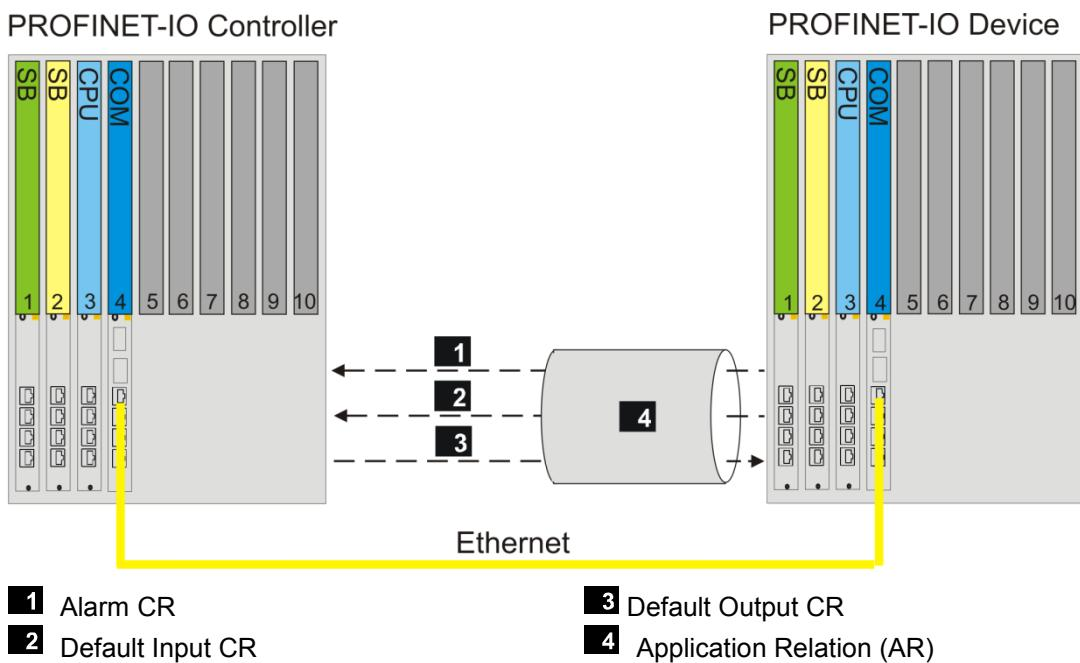

Figure 34: Communication via PROFINET IO/PROFIsafe
An application relation (AR) is a logic construct for enabling data exchange between controller and device. In this example (see Figure 34), data is transferred within the application relation via the standard communication relations (alarm CR, default input CR and default output CR). This communication relations are already configured per default in the input and output modules.